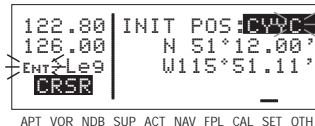

Figure 4-58
2. Using the right inner and outer knobs, enter the identifier for the airport where you are presently located or the identifier of a navaid or other airport which is close to your present position (figure 4-58). Any waypoint in the data base which is within 60 miles is acceptable, but the closer the better. Remember, if you are entering an airport identifier that is all letters (no numbers), then it will begin with a "K" prefix in the contiguous U.S., a "P" in Alaska (in some cases; in others, the prefix is not added), or a "C" in Canada. If there are numbers in the identifier then a prefix is not used. Outside the contiguous U.S., Alaska, and Canada, use the airport identifiers as they are charted.